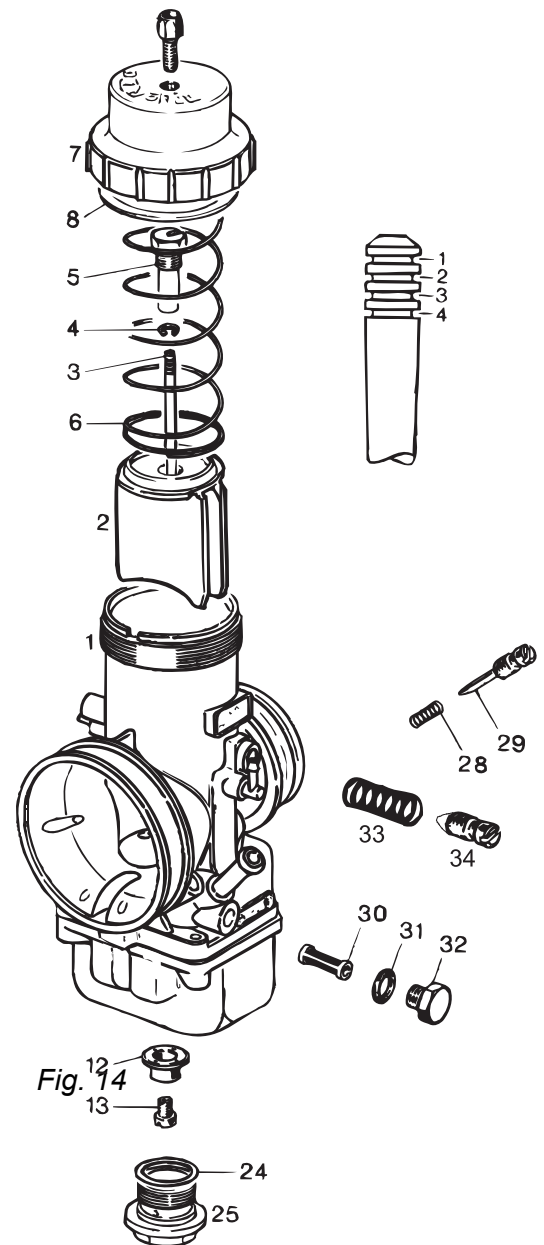

Fig. 14
- ⇒ Install the main jet cup (12) in position as depicted in figure 14 and fit the corresponding main jet (see Table 1A resp. 1B).
- ⇒ Fit and hand tighten the plug screw (25) and gasket ring (24).